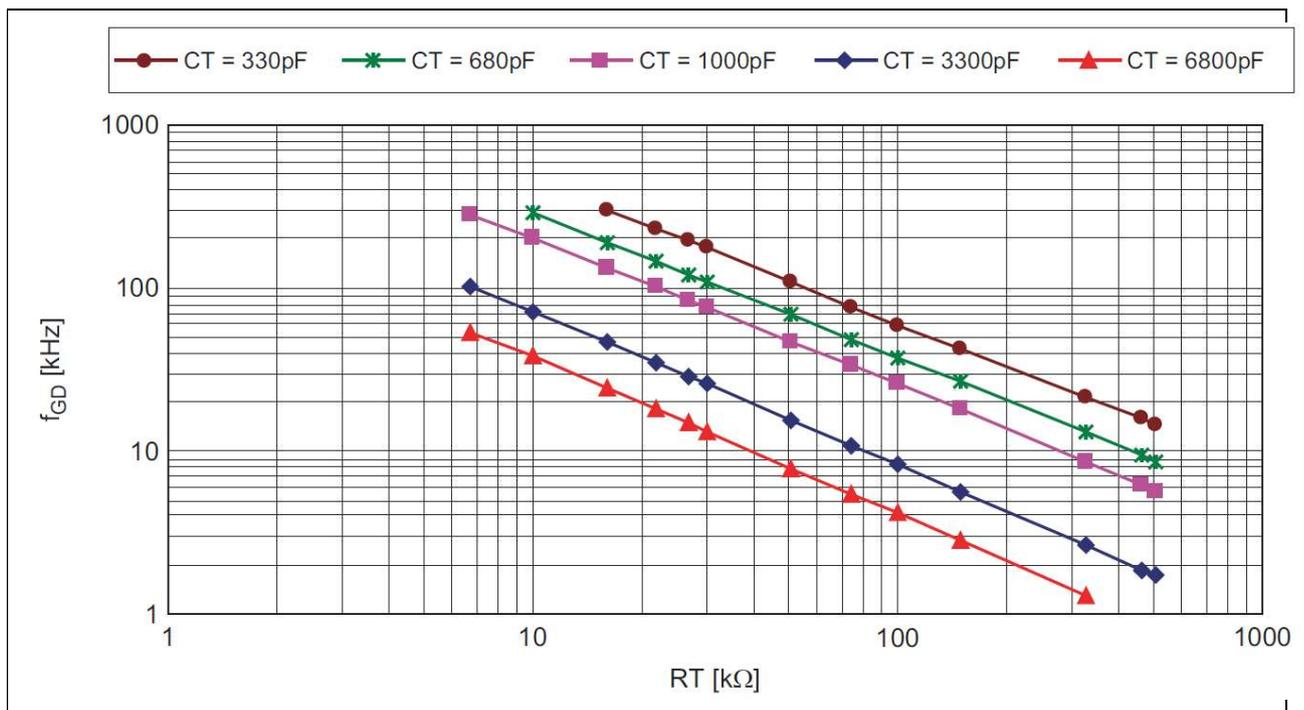

Figure 13 Operating Frequency Characteristics
The operating frequency is approximated by the following expression (6). The expression (6) is the formula that was similar so that an error of the whole range of each capacity value and the resistance value of fig.13 is small. Therefore, the calculation result of the expression (6) does not completely accord with the real frequency. C_t and R_t from the expression (6) is used as an initial setting values. More correct value is calculated from the graph in figure 13 or by Excel Calculation Sheet.
As a reference, the operating frequency f_{GD} when the timing resistor R_T and the timing capacitance C_T are changed is shown in the figure 13.